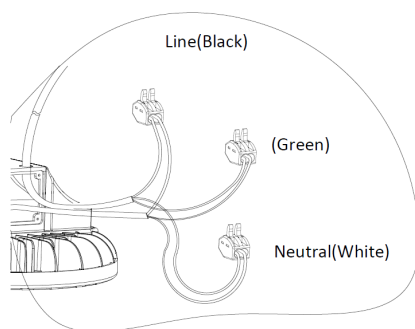

Fig. 9
- Connect the wires in junction box (See Fig. 9)